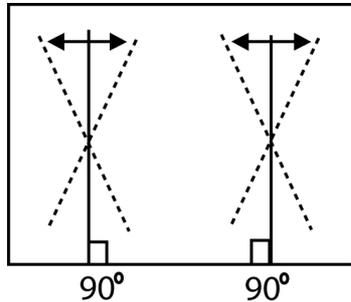

Fig. 4a
3. Adjust the vertical line to straight line of bothside vertical line in Fig. 4a by Trapez
3. Adjust the vertical line straight line of bothside vertical line in Fig. 4a by Trapez.